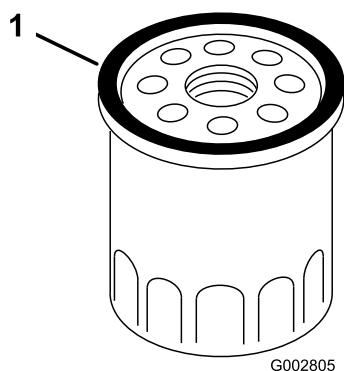

Figure 26
8. Use your finger to coat the gasket on the new oil filter with oil (Figure 26).